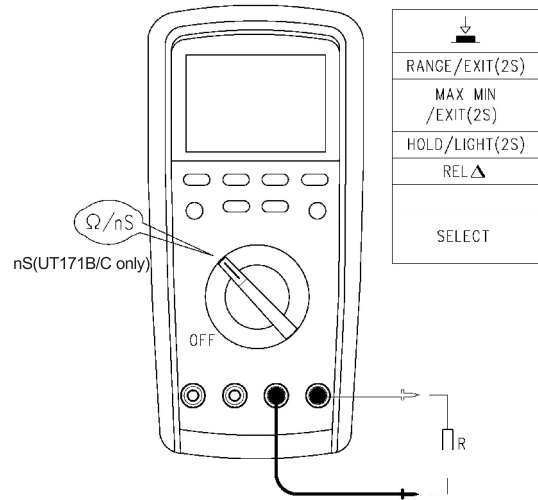

Figure 4a
**2) Measuring of resistance/conductivity G (Figure 4a)**